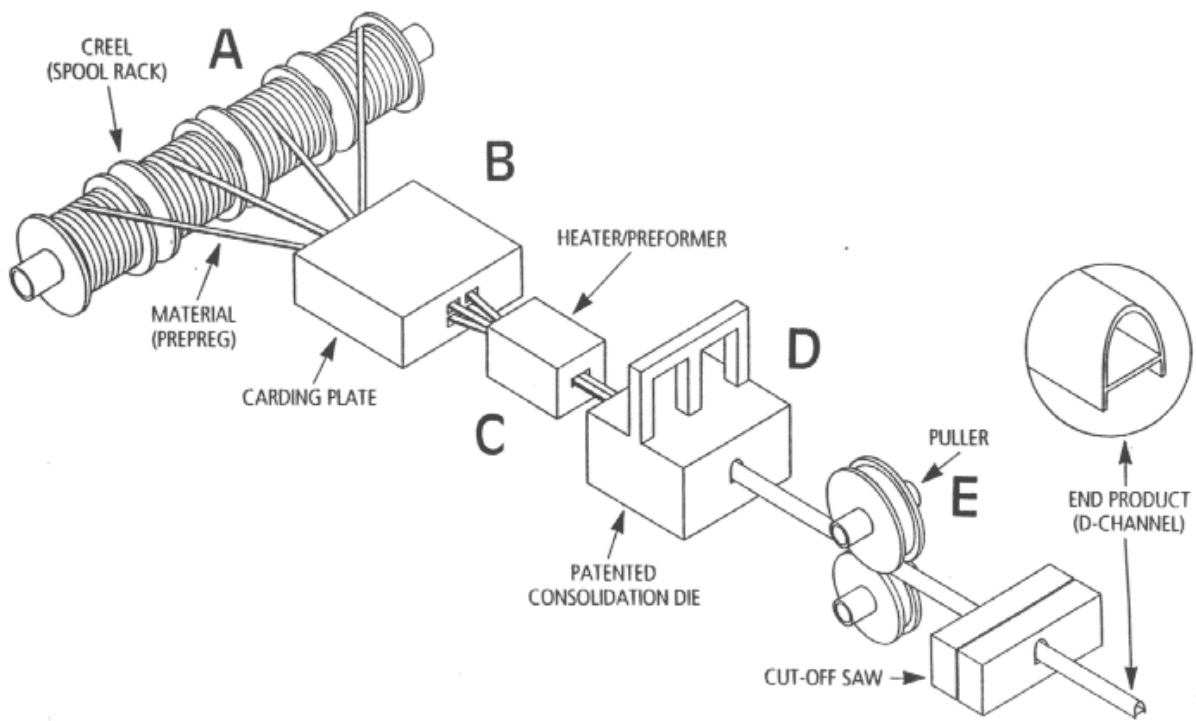

Figure 1 The thermoplastic pultrusion process used by TPI.
The firm possesses two pultrusion production lines. Fig. 1 is a diagram of the CFRP tube production process. There are, essentially, six steps in the TPI pultrusion process:
2. The "carding plate" (see item B in Fig. 1) has a number of openings which are specially arranged according to product shape. For example, to produce a hollow section tube, a cantilever inserter is held and supported before the carding plate. The inserter is extended to the preformer (heater) and the consolidation die.
3. The preformer (see item C in Fig. 1) has a three-stage heating element. The temperature of each stage is controlled by a proportional controller. For a typical resin, such as polyphenylene sulfide (PPS), the temperature of the first stage is 675°F and that of the third stage is 625°F. The prepreg passes through the heater where the layer of fibers are wet by the melting resin. After leaving the heater, the prepreg is air-cooled.
4. By the time the material reaches the consolidation die (see item D in Fig. 1), its temperature will be just below the melting point (450°F for PPS). The components of the consolidation die include an ultrasonic generator, an ultrasonic wave guider, a pressure generator and a shaping die. The ultrasonic generator used for pultrusion is actually a modified ultrasonic welding generator. The only differences are that the generator has a wider tuning range and utilizes a smaller output power. The wave guider is a piece of metal which is equivalent to half a wavelength; it is used to transfer the power to the die area. The ultrasonic power increases the resin's flow rate, even if its temperature is below the melting point. So, the material can be pulled through the die to form the required shape. The die is formed of a top part and a bottom part. The top part, which is connected to a pressure generator, provides additional pressure during the tube-forming process.
5. The fifth stage (see item E in Fig. 1) is the pulling device composed of two linear motion mechanisms -- one produces a forward pulling motion, the other a backward release motion.